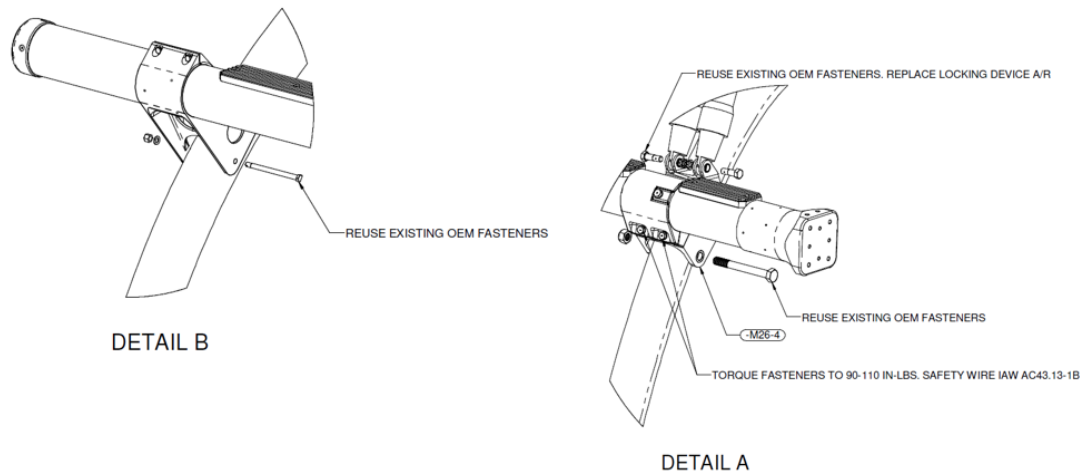

Figure 6 – AFM-SM117-1 Hardware Installation Views (D-2 Model)
- Align forward and aft landing gear skid fittings with holes on landing gear cross tubes as shown in Figure 6.